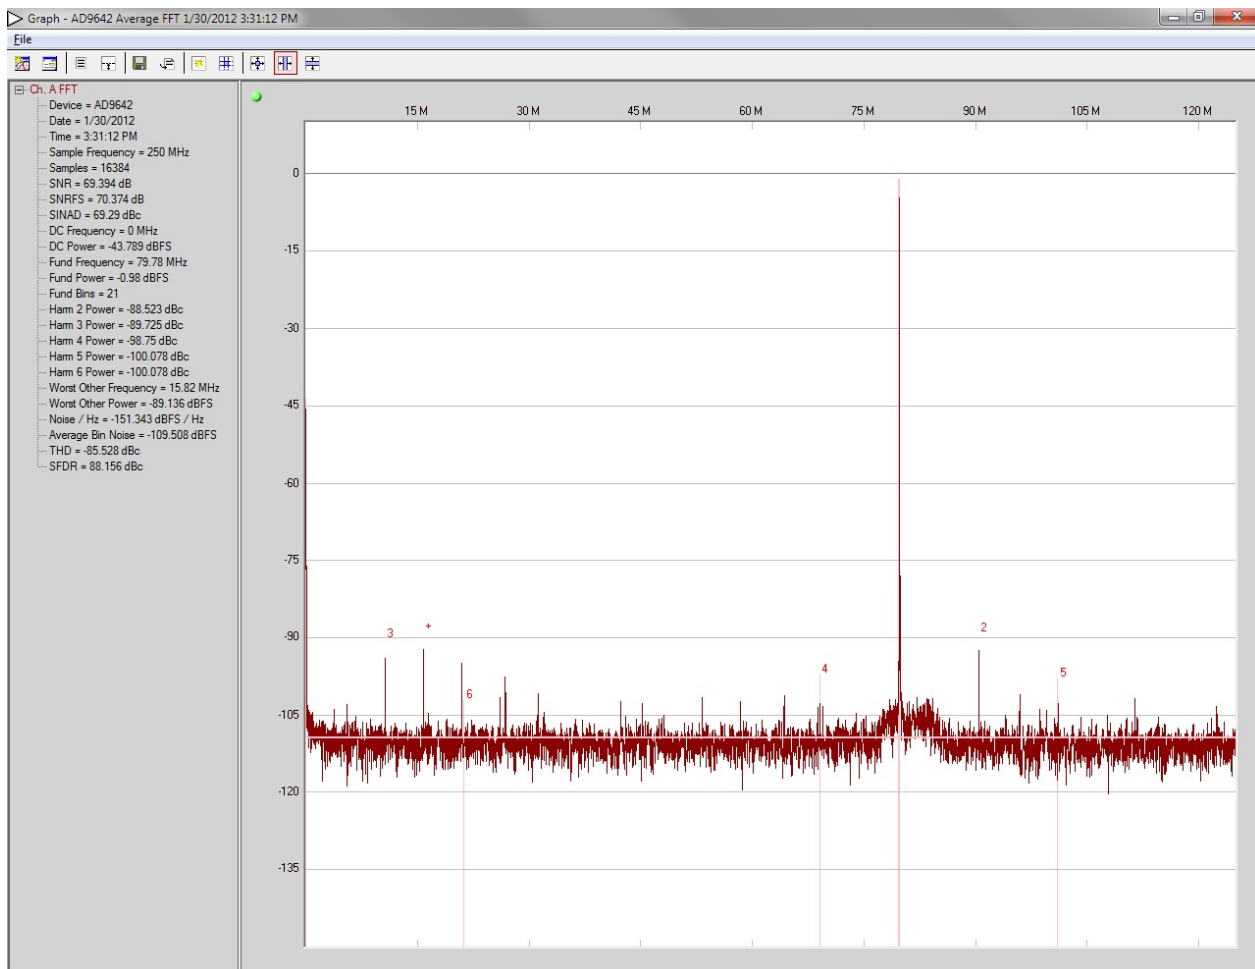

Figure 14. Graph Window of VisualAnalog (AD9642)
1. Adjust the amplitude of the input signal so that the fundamental is at the desired level. (Examine the **Fund Power** reading in the left panel of the VisualAnalog **Graph** window.) See Figure 14.